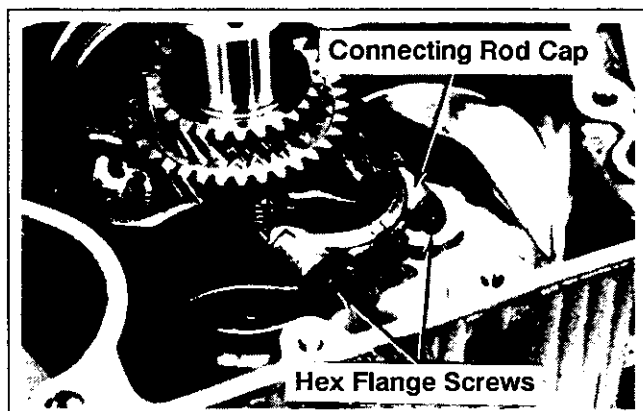

Figure 11-9. Installing Connecting Rod Fasteners.
5. Install the hex flange screws and torque in increments to 22.6 N-m (200 lbf-in). See Figure 11-9.